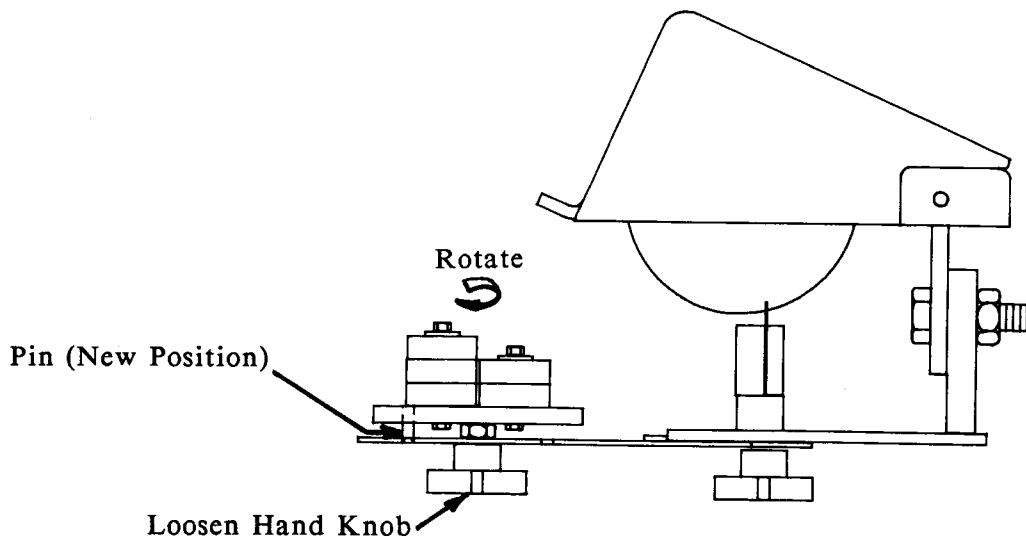

FIGURE 3
5. To equalize the other side of the blade, simply lift the blade out of the rollers and loosen the hand knob found on the underside of the equalizer. Lift the pin out of the hole it is currently located in and rotate around until it seats in opposite hole (See Figure 3). Re-tighten hand knob and re-insert blade. Follow same steps as before to equalize second side of the blade. Remove equalizer from the sharpener when equalizing is completed.